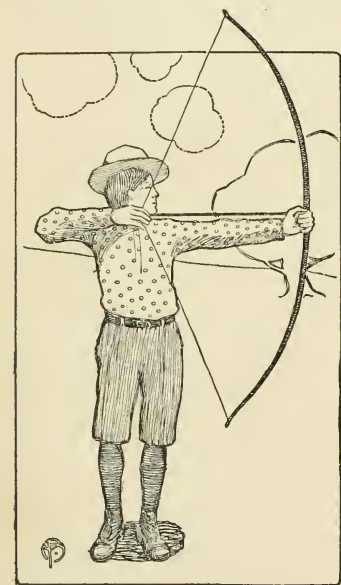

FIG. 248. — Correct Position for Shooting.
**To Shoot** with the bow, take the position shown in Fig. 248, with both feet flat upon the ground, and the heels in line with the target. Hold the handle of the bow in the left hand and place an arrow on the left side of the bow, slipping the bow-string into the notch and letting the head of the arrow rest upon your left hand. Catch the bow-string with the first three fingers of your right hand, so that the end of the arrow comes between the first and second fingers, and draw the string until the head of the arrow rests upon the left hand; then aim quickly and let go of the arrow. By always taking the same hold upon your bow and arrow, you will soon be able to know just where the arrow is going to strike.